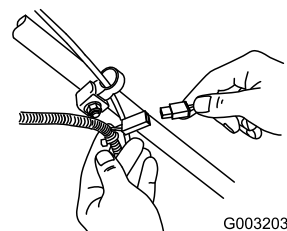

Figure 7
1. Connect the charger to the mower wire harness located below the ignition key (Figure 7).